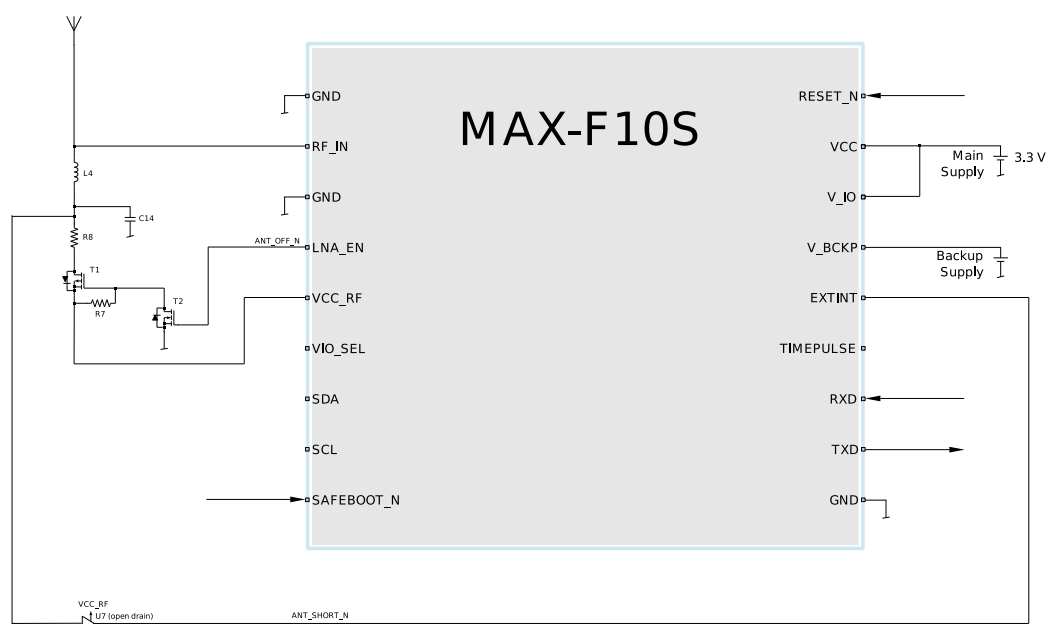
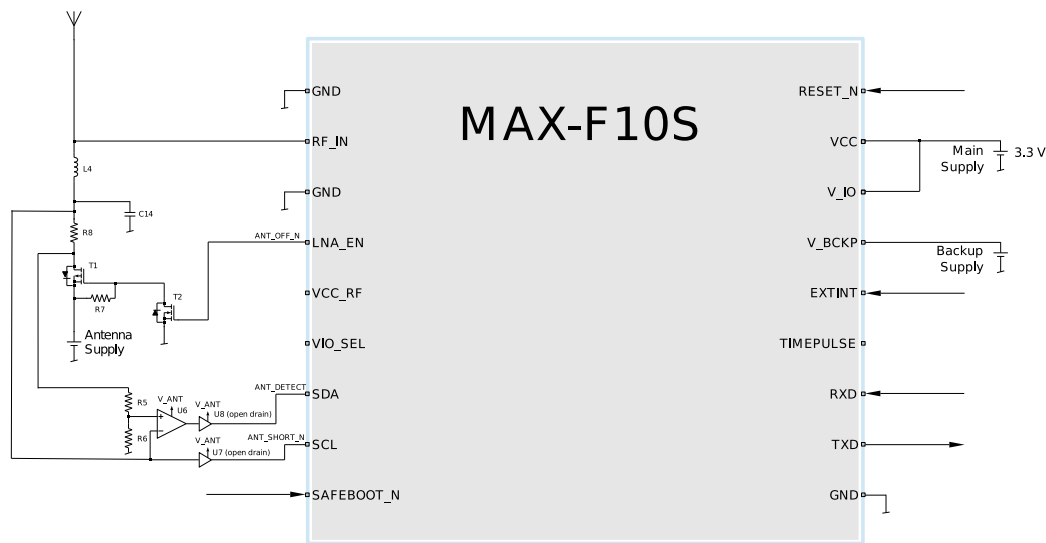

Figure 32: 2-pin antenna supervisor design
Figure 33: 3-pin antenna supervisor design
- A passive or active antenna can be used. An active antenna can be supplied either with the VCC_RF output from MAX-F10S, as shown in Figure 32, or from an external supply, as shown in Figure 33. Nevertheless, the internal LNA provides enough gain for passive antennas.
Figure 32 and Figure 33 show a reference design for a 2-pin and 3-pin antenna supervisor design respectively. Here are some key features:
- UART and I2C communication interfaces are available. I2C PIOs (SDA and SCL) can be used in a 3-pin antenna supervisor design as shown in Figure 33. In this case, the I2C interface needs to be disabled before assigning the new function to the PIOs.
The 2-pin antenna supervisor configuration required for the Figure 32 reference design is listed in Table 38.
The 3-pin antenna supervisor configuration required for the Figure 33 reference design is listed in Table 39.